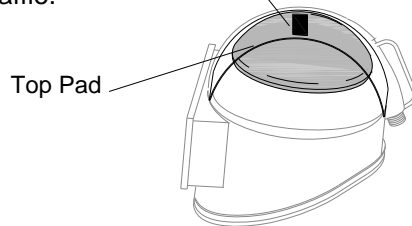

Figure 2
3.2 Positioning Top Pad; Refer to Figure 2